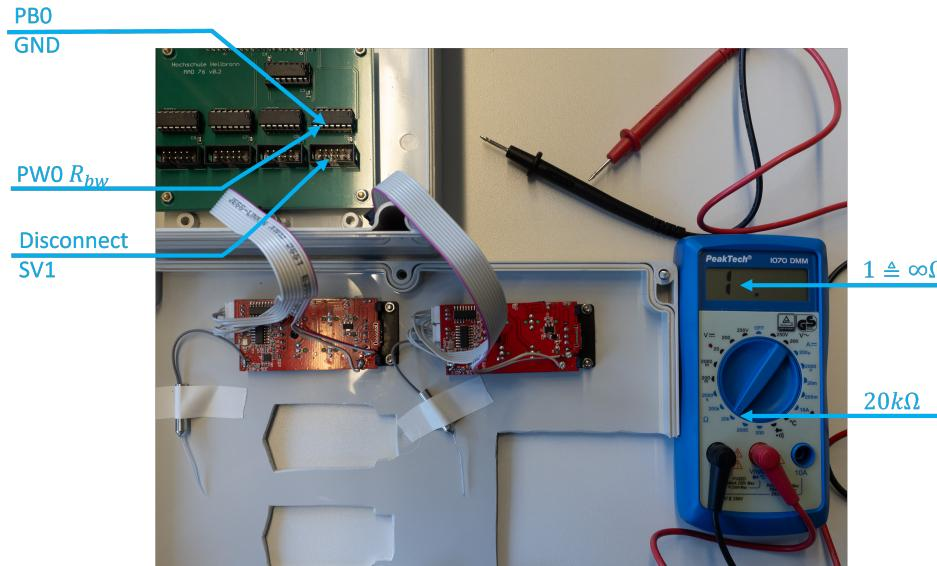

Figure 4: Exercise 1: Measure  $R_{bw}$  with a multimeter
E.4.4.1 Measure the resistance values  $R_{bw}$  of the digital potis of RC 1 with a multimeter (see Figure 4)